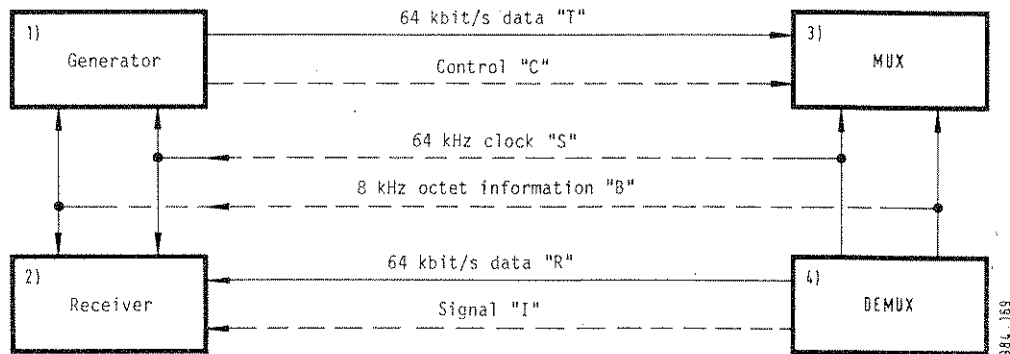

Figure 5-15 Signal flow at the 64 kbit/s V.11 interface of the PCM-4
1) Generator operation with parameter 112 or 113 (see fig. 5-15, item 1)
2) Receiver operation with parameter 112 or 114 (see fig. 5-15, item 2)
3) MUX operation with parameter 212 or MODE B92 (see fig. 5-15, item 3)
4) DEMUX operation with parameter 222 or MODE B92 (see fig. 5-15, item 4)